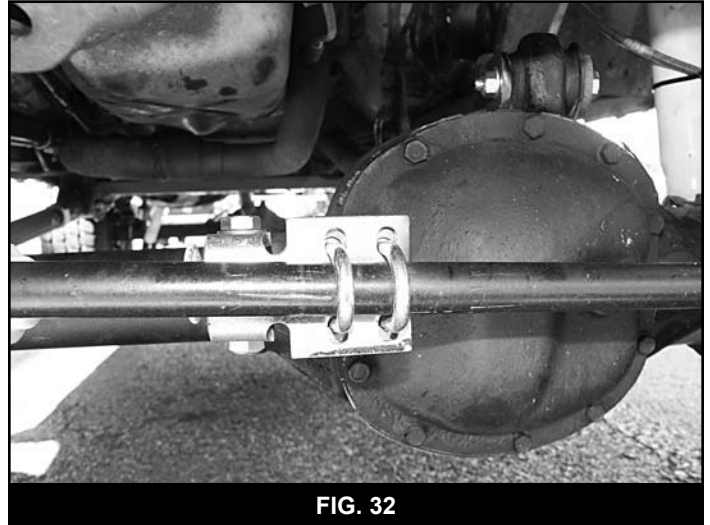

FIG. 32
89. Turn the wheels all the way to the passenger's side. Compress the cylinder to approximate 1/4" from bottoming out. Place the mounting bracket up against the tie rod (Fig 32) and fasten with the provided 5/16" u-bolts, 5/16" nuts and 1/4" USS washers (BP 323). Torque u-bolts to 22 ft-lbs. Torque the 3/8" stabilizer bolt to 30 ft-lbs.